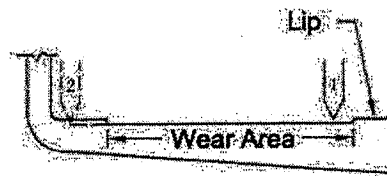

Fig. 16
c. Loosen the set screws on top of the tool bar and slide the tool bar to the left until the tool bit just contacts the inside of the drum. (Figure 16) Tighten the clamp handle.